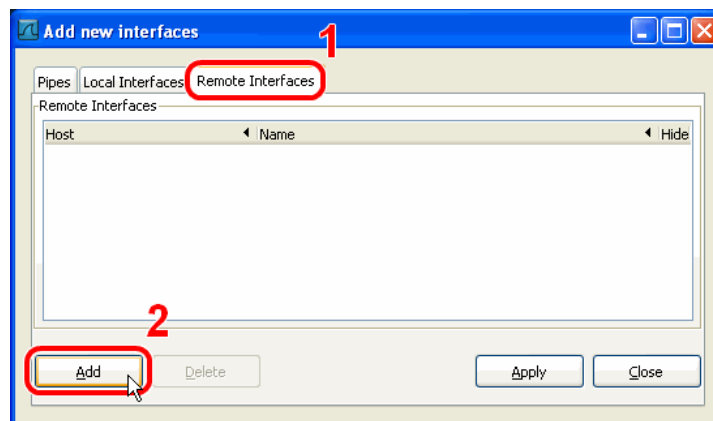

Figure 377: Wireshark Add New Interfaces Dialog.
3. Select the **Remote Interfaces** tab and click **Add** as shown in Figure 377.